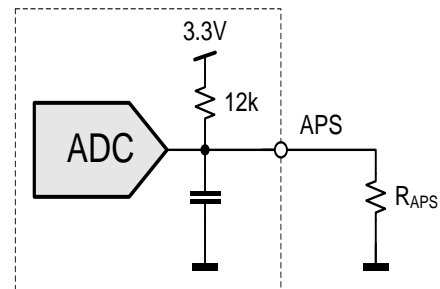

Figure 35 - I2C address and protocol setting
1) E12 resistor values, use max 5% resistors, see also Figure 35.